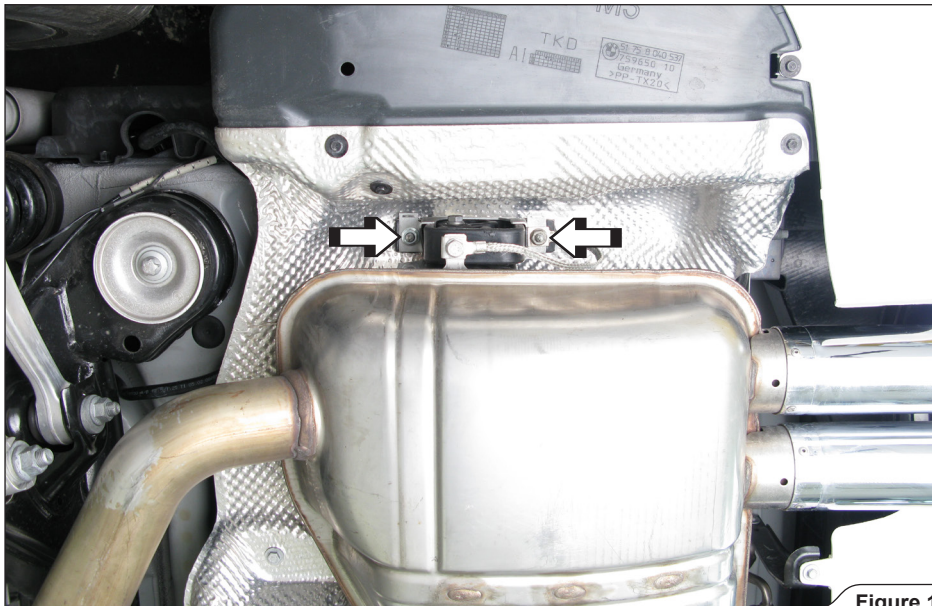

Figure 1
1. Unscrew the M8 nuts from stock muffler rubber brackets on both sides of the vehicle (**Figure 1**).